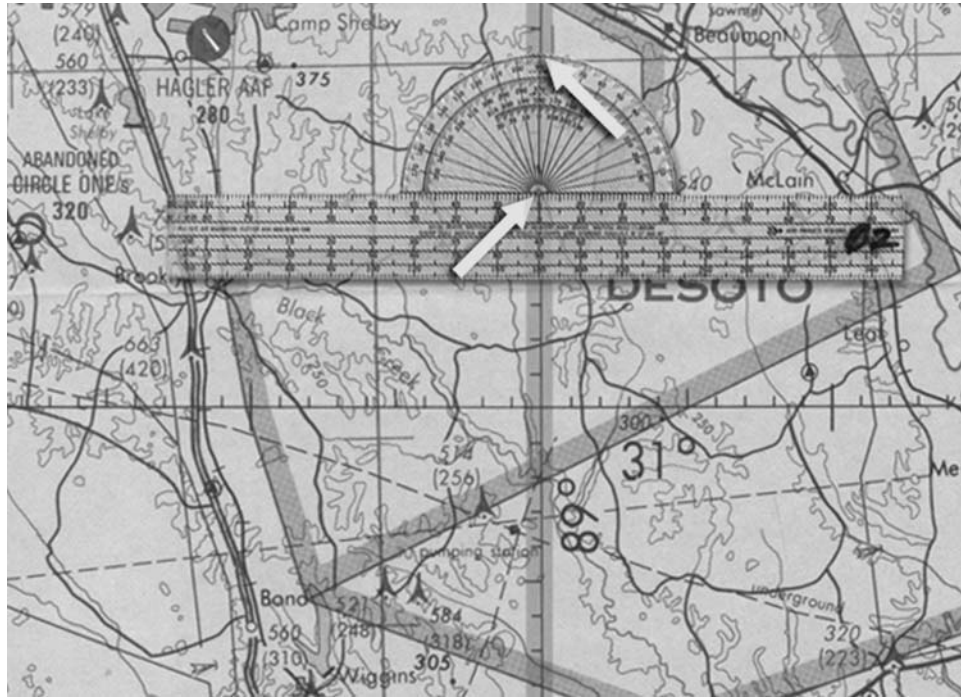

Figure 4.2.15 Latitude
2. Position the plotter so that the desired point is slightly below the straightedge. Carefully align the grommet and 90° mark on the outer scale so that they lie along the same meridian (any meridian). Slide the plotter down until the straightedge touches the point of interest. Check to make sure that the grommet and the 90° mark are still aligned with the meridian and, if necessary, adjust the plotter so they do (Figure 4.2-15).